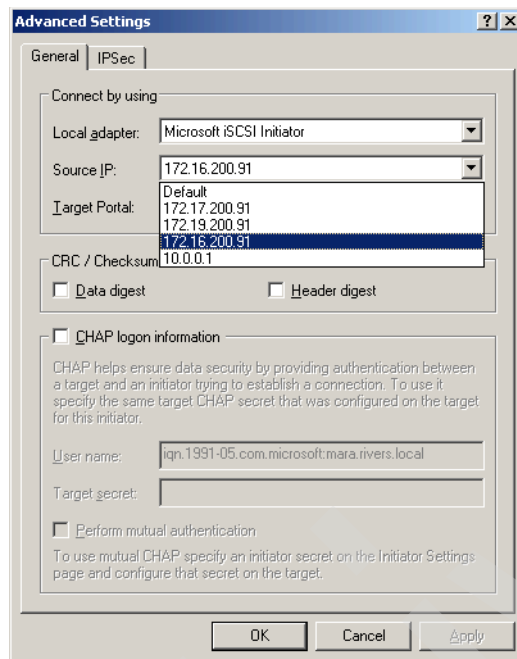

Figure 23-28 Advanced settings - Source IP address
3. Click **Advanced....** Select the Microsoft iSCSI initiator in the **Local adapter** drop-down menu. In the **Source IP** drop-down menu, click the IP address that is connected to the first iSCSI LAN. See Figure 23-28.